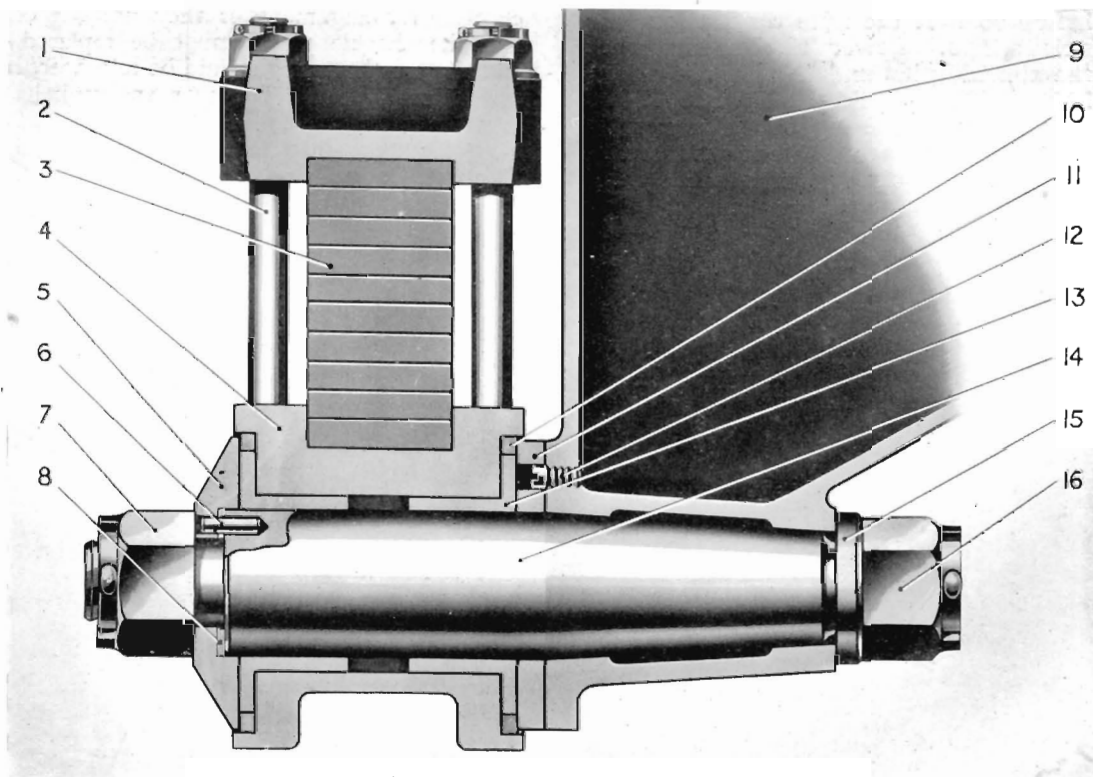

Fig. 2.
The rear springs on six-wheelers are supported on pivot pins (14), Fig. 2, taper fitted in triangular brackets secured to the frame side members and strengthened by a cross tube. The springs are secured to the spring-seat brackets (4) by alloy steel bolts. The spring-seat brackets have flanged bushes (13) pressed in from each end and are located on the pivot pin between two thrust washers (5) and (11), one dovelled to the triangular bracket, the other to the pivot pin. The assembly is secured by a large nut (7) which is split pinned, shims (8) being fitted so that the nut can be pulled dead tight without nipping the spring-seat bracket. Dirt and water are excluded by two felt washers (10). Lubrication is effected through nipples in the lubrication batteries.
To replace a broken spring, pack up under the frame high enough to take all weight off the spring; jack up under the axles and remove the wheels. Remove the bolts securing the spring to the spring-seat bracket (4), Fig. 2, take out the clamp bolts and withdraw the shackle pins. The shackle pins have $\frac{3}{8}$ in. B.S.F. tapped holes, so that bolts can be screwed in to facilitate their withdrawal. Jack up the axles high enough to allow the spring to clear the axle brackets and the spring can be removed.
The spring-seat bracket bushes should be renewed if there is excessive play on the pivot pin. When replacing the spring-seat bracket, check that the thrust washers are located on the dowels and that the felt washers are replaced. Tighten the retaining nut dead tight, fitting or removing shims (8), Fig. 2, until the spring-seat bracket can pivot freely without end play, then split pin the nut. Do not nip the spring-seat bracket.